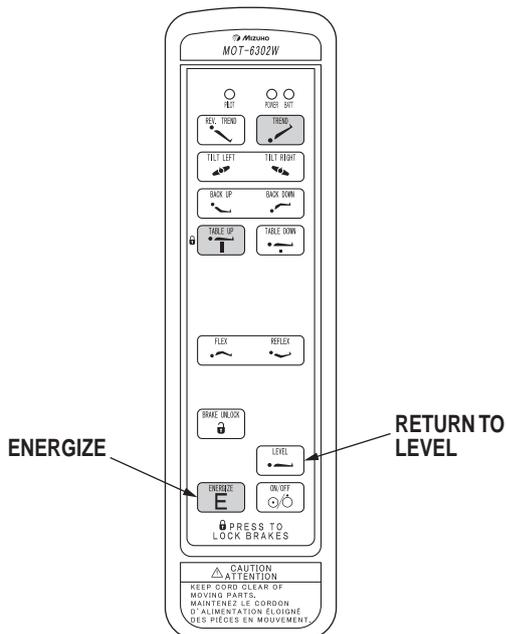

Figure 2-13. Return to Level
g. Return To Level To return the table top to a level position, press the ENERGIZE button and then the LEVEL button (figure 2-13).